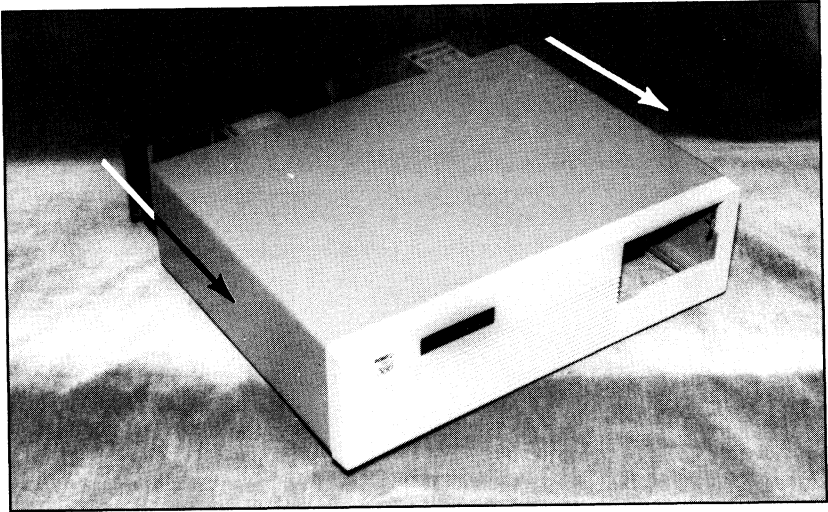

Figure 2-2. Removing the Enclosure
4. Face the front of the computer. Grasp the enclosure on the left and right sides simultaneously. Gently slide the enclosure forward until it is free from the chassis (See Figure 2-2).